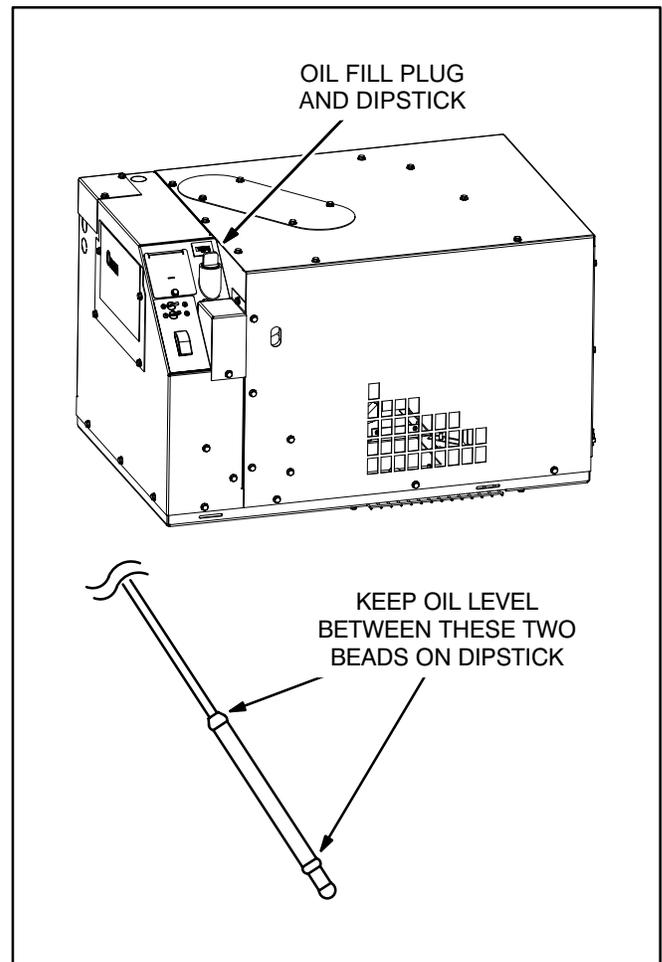

FIGURE 9. CHECKING ENGINE OIL LEVEL
1. Pull the oil fill plug and dipstick out of the oil fill neck (Figure 9). The plug may be difficult to pull straight out. It is easier if you tilt the plug in its socket while pulling out. Wipe off the dipstick and thread it back into the fill neck and seat the plug, which snaps into its socket. Remove the plug and dipstick again and check the oil level on the dip stick.